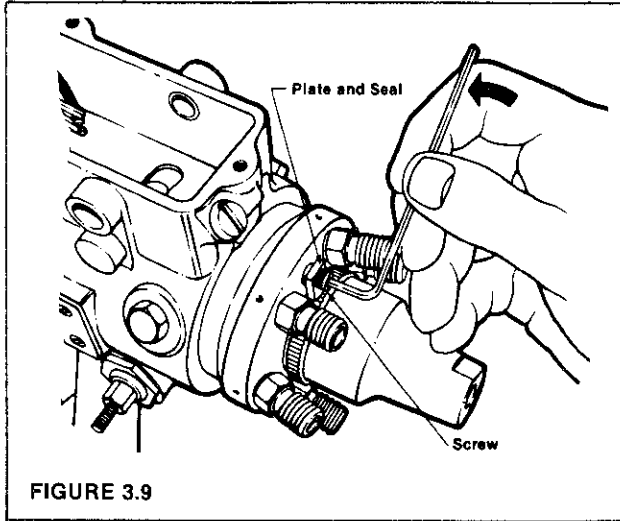

FIGURE 3.9
STEP 9 Loosen and remove transfer pump end cap locking screw, plate and seal from the hydraulic head (Figure 3.9).